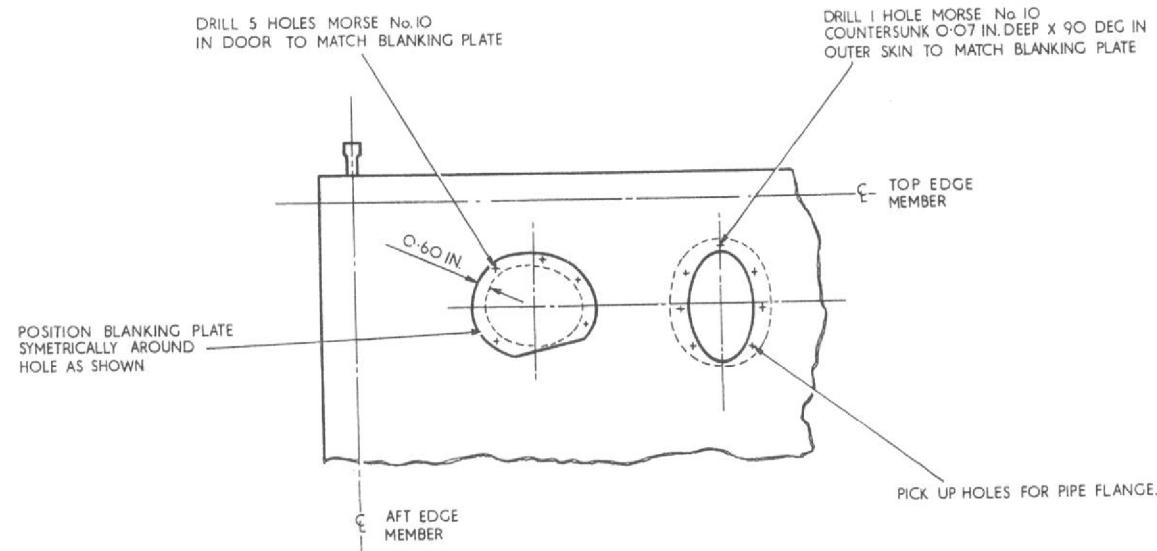

Fig. 2 Fitting blanking plates to starboard radio bay access door
- (1) Remove the starboard radio bay access door.
- (2) Remove the port and starboard link containers.
- (3) Remove the starboard outboard case chute from the aircraft, and the starboard inboard case chute from the starboard radio bay access door.
- (4) Modify the starboard radio bay access door as shown in fig. 2 and fit the blanking plates, Part No. A 260681 and A.260682, using bolts, Part No. AS.1242.1.C, nuts, Part No. A.GS 2002.C.1 and washers, Part No. S.P. 15.C.